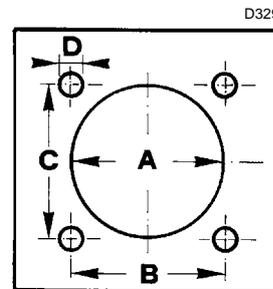

Fig. 10
Drill the combustion chamber locking plate as shown in Fig. 10. The position of the threaded holes can be marked using the thermal screen supplied with the burner.
- Remove the screws (2) from the two slide bars (3).
- Remove the screws (1) that secure the blast tube (6) to the burner (4).
Fasten the blast tube (6) to the boiler plate (Fig. 10 on page 16), inserting the gasket provided (5). Use the 4 screws provided after having protected the thread with antiscuffing products (high-temperature grease, compounds, graphite). The burner-boiler seal must be airtight.